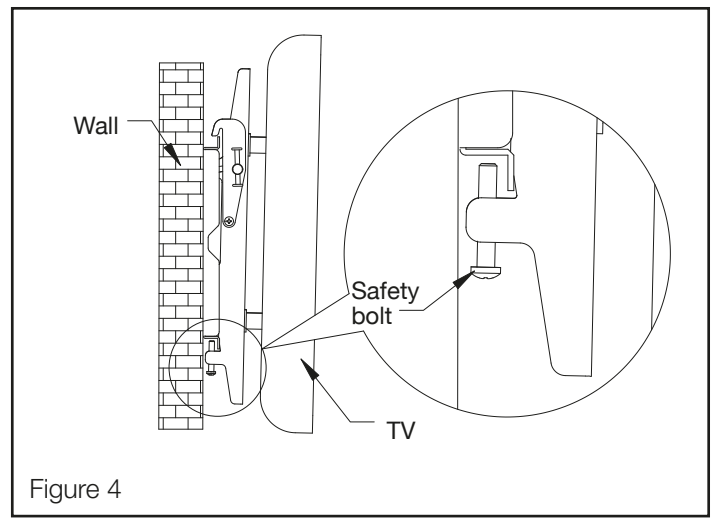

Figure 4
6. Loosen the Safety bolt at the bottom of each arm (see Figure 4).